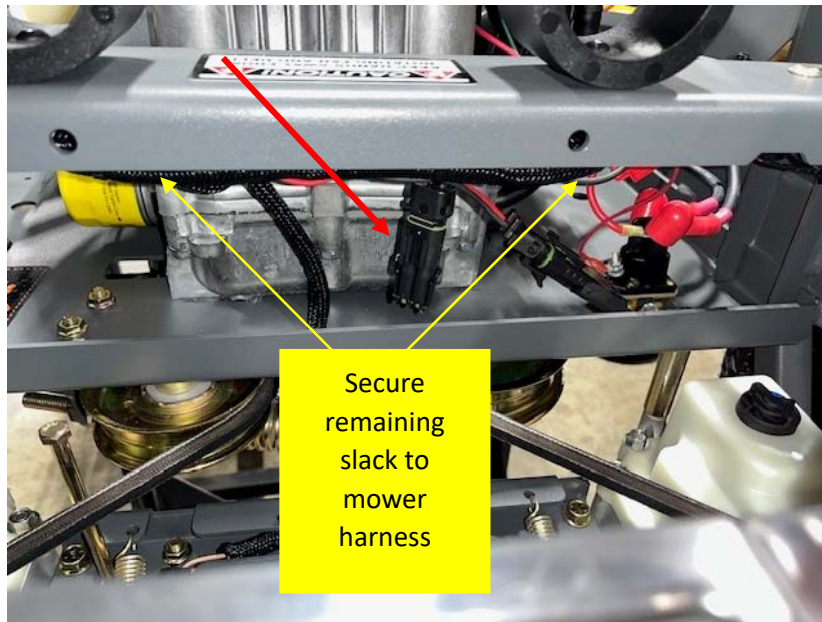

Figure 11
14. Remove the weather cap and connect the light harness into the factory plug located under the cross-member. (Figure 11)
15. Using the remaining small zip-ties, secure any remaining slack from the light harness to the main mower harness located under the cross-member. (Figure 11)
- Note: If the seat is equipped with a locking cross-member latch, make sure it does not contact the wiring harness when in the down position. (Figure 11)**